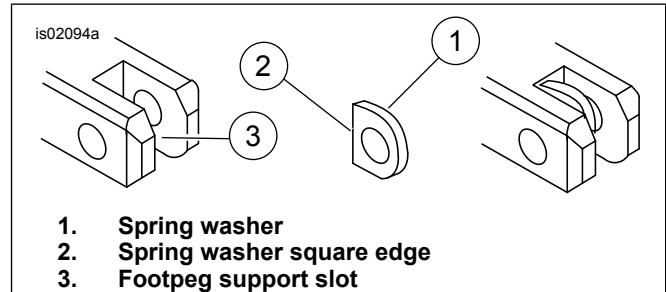

Figure 1. Footpeg Spring Washer Installation
See Figure 1. When performing the next step, verify that the spring washer is positioned inside of the footpeg support with the square edge (2) towards the inside of the support.
4. Install the new footpegs in the same manner as the old footpegs were installed. Insert a spring washer (1) and the mount end of the footpeg inside the slots (3) of the footpeg supports.